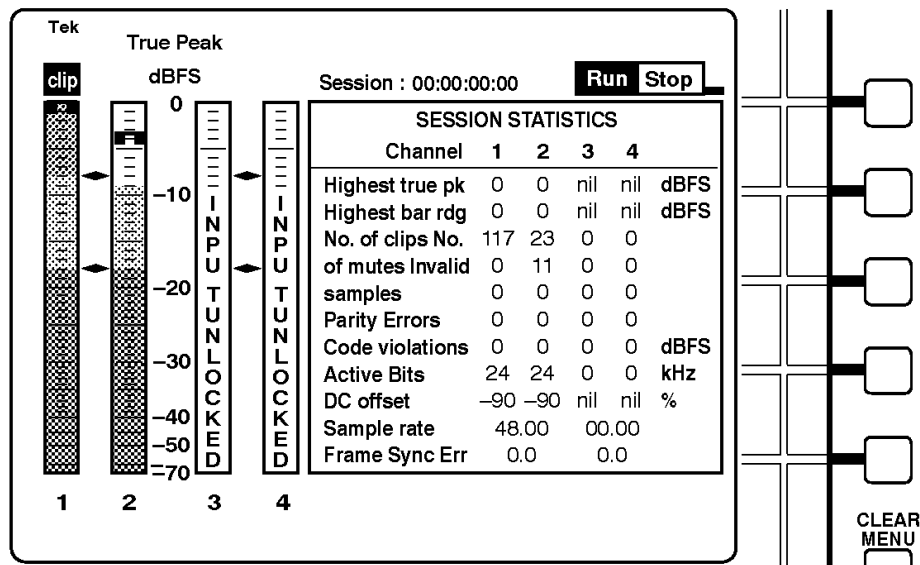
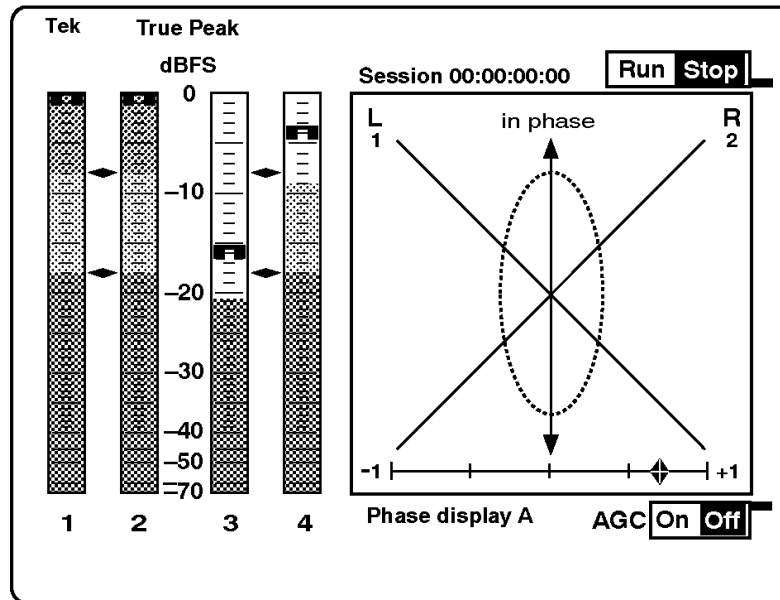

Figure 12: The 764 AUDIO/SESSION view
Figure 13: The 764 AUDIO/PHASE view
The Audio view (with the Session Statistics displayed, as shown in Figure 12) is the power-up default configuration of the 764. Otherwise, the Audio View is never more than two button presses away:
The left portion of the Audio view display always contains four “bar graph” level meters. The right portion contains either a numerical display of session statistics (see Figure 12), or the Phase display (shown in Figure 13). Configure the right side of the Audio view display with the three PHASE DISPLAY buttons: **A**, **B**, and **SESSION**.
The **A** and **B PHASE DISPLAY** buttons select a Lissajous Phase display with correlation meter, as illustrated in Figure 13. The A and B phase pairings are, by default:
The **SESSION** button selects a Session Statistics panel, illustrated in Figure 12. Refer to *The Session Display* beginning on page 29 for more information.
- (4) **METER SCALE** buttons. Use the **METER SCALE** buttons to change the Audio view level meter scale. The default scale, selected with **NORMAL**, is illustrated in Figure 12. Use **EXPAND** and **OFFSET**—with the multi-function knob—to configure the range and offset of the custom scale. Refer to *The Level Meters* beginning on page 18 for more information.
- (5) **Multi-function knob**. Turn the multi-function knob to expand and offset the meter scale, and to scroll various on-screen menus. The
- (6) **MENU button.** Press MENU to invoke the display menu and call up context-sensitive help text when a menu is on screen.
- (7) **Soft buttons.** The five white soft buttons are used to select choices or toggle settings that are indicated on the CRT display. In Figure 12, for example, the top soft button is used to toggle the Session between Run and Stop.
- (8) **CLEAR MENU button.** Press CLEAR MENU to exit the on-screen menu and return to the most recent view (Audio, Channel Status, or User Data).
- (9) **Headphone VOLUME control.** The VOLUME knob controls the analog headphone output gain; on instruments equipped with Option 02, it also controls the gain of the rear-panel analog audio outputs.
- (10) **Display BRIGHTNESS control.** Turn the BRIGHTNESS knob to adjust the brightness of the 764 display. Does not affect the output of the rear-panel VGA VIDEO connector.